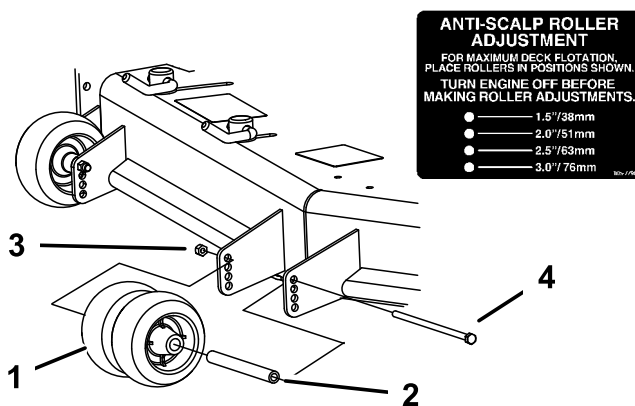
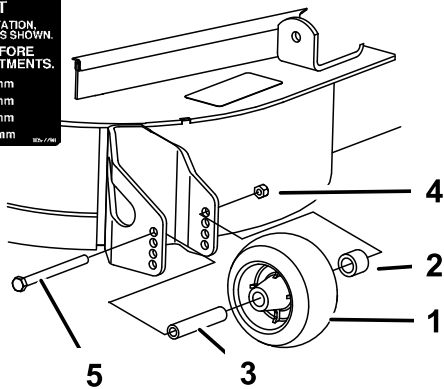

Figure 20
Figure 21
3. After adjusting the height-of-cut, adjust the rollers by removing the flange nut, bushing, spacer, and bolt (Figure 19 , Figure 20 and Figure 21).
Note: The two middle rollers will not have a spacer (Figure 20).
5. Install the flange nut bushing, spacer, and bolt. Torque to 40-45 ft-lb (54-61 N-m) (Figure 19 , Figure 20 and Figure 21).